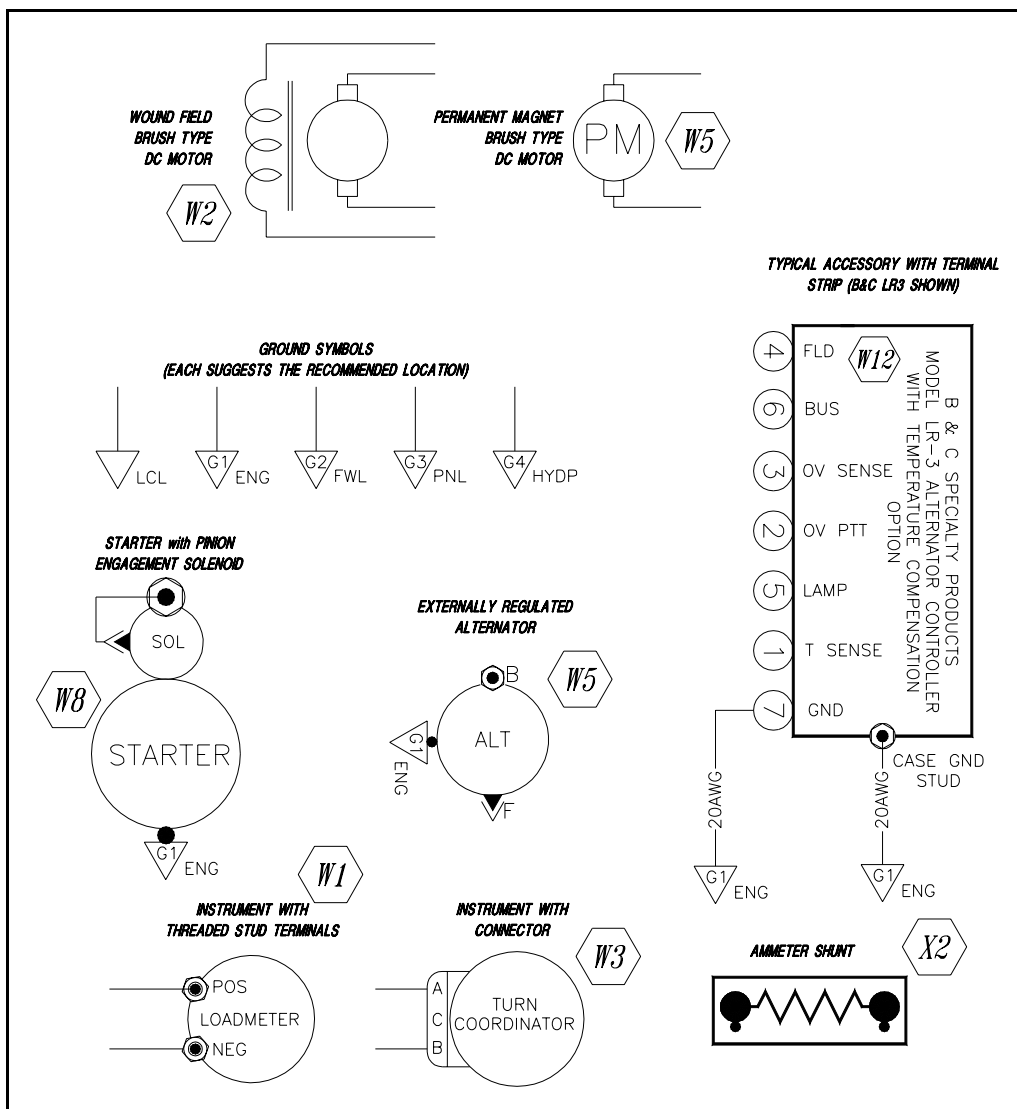

Figure 1-16. Miscellaneous Wiring Symbols
**MISCELLANEOUS SYMBOLOGY:** Ground symbols depicted in Figure 1-16 labeled in accordance with their optimum locations. Every airplane has three specific locations for instrument, electrical and avionics grounding. G1 is called out as the “engine” which automatically includes alternator, starter and any sensors that find their way to electrical ground by virtue of their mounting.